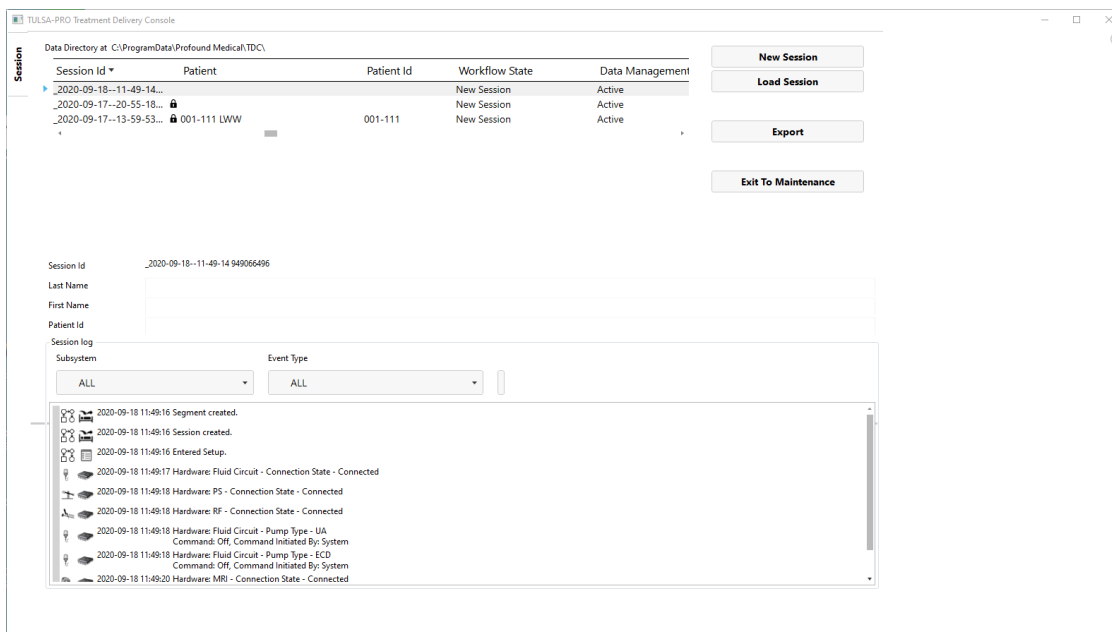

Figure 4: Session Data Management workspace of the TDC Main Menu
1. Launch the TDC software from the desktop. The *Session Data Management* workspace will appear. Click **New Session** (*Figure 4*).